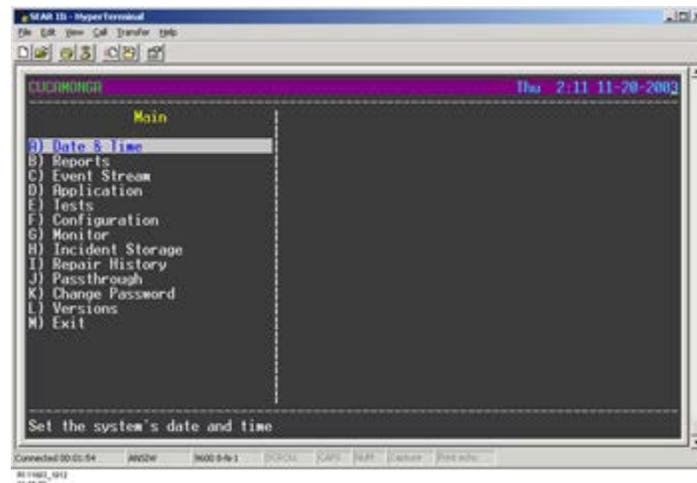

Figure 6-1: SEAR Ili Terminal Interface Main Menu
The Terminal Interface Main Menu, Figure 6-1:
- displays when **Ctrl+L** is pressed from the after the SEAR Ili has completed booting, Figure 6-1